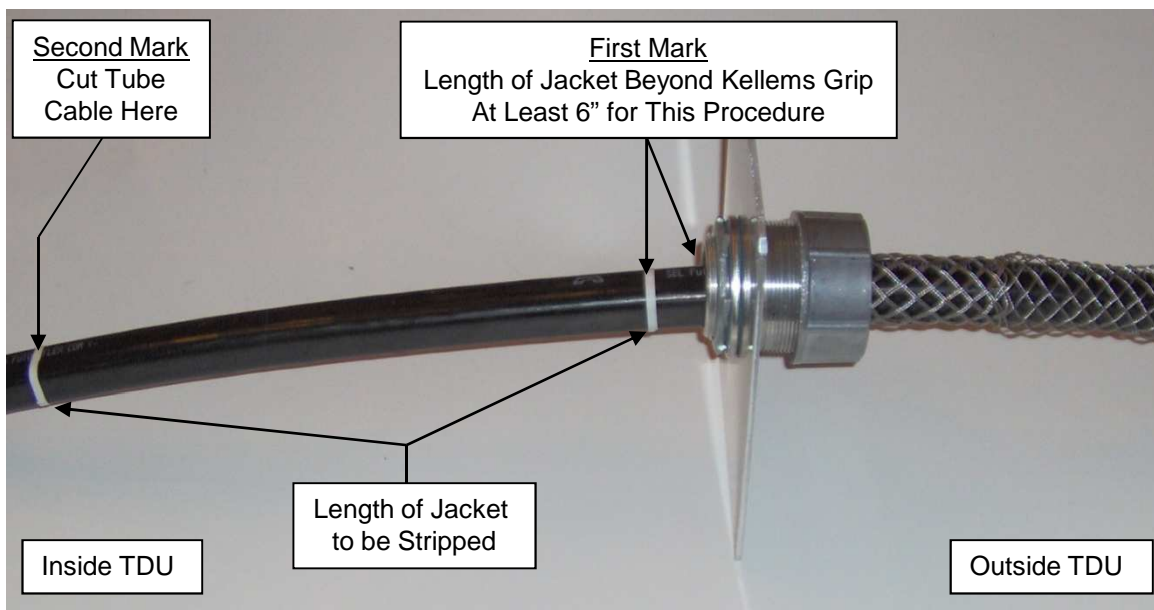

Figure 8
7.3 Place tube cable into TDU enclosure and mark jacket in two (2) places. See Fig. 8.